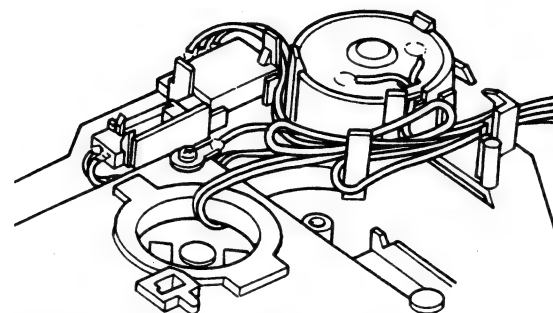

Fig. 10
(2) When disassembling and assembling the unit mechanism, assemble with wiring resembling that of Fig. 10